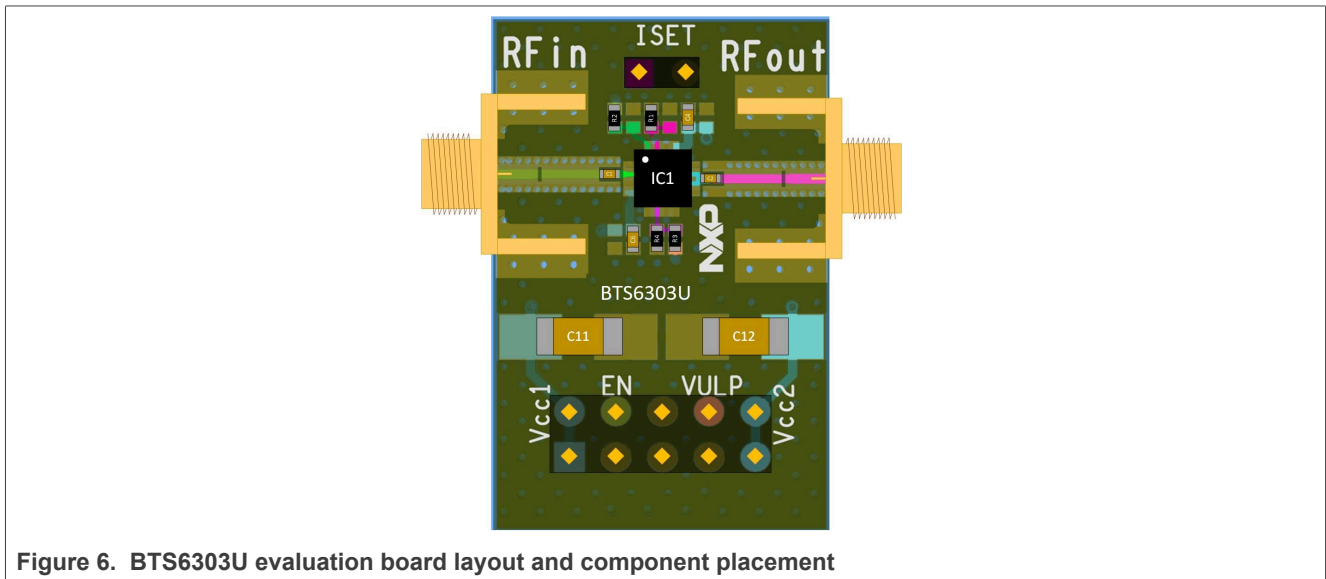

Figure 6. BTS6303U evaluation board layout and component placement
- Proper grounding of the GND pins is also essential for good RF performance. Either connect the GND pins directly to the ground plane or through vias, or do both, which is recommended. The layout and component placement of the BTS6303U evaluation board is given in Figure 6